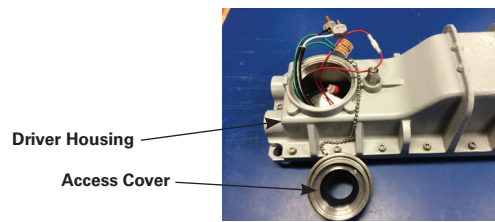
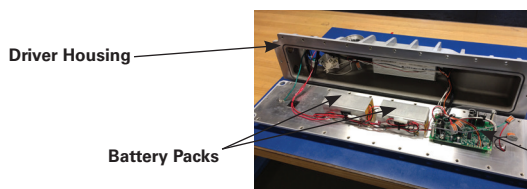

Figure 10
Figure 11
3. Battery replacement requires removal of the driver housing (see Figure 11).
4. Open the threaded wiring access cover (see Figure 10) and allow the cover to hang by the lanyard.
9. Remove the twenty-four (24) socket head cap screws and lock washers from the driver housing using a 5mm hex wrench or bit.
11. Remove the driver housing. Note: Keep the housing close to the luminaire body to avoid strain on the attached wire harness (see Figure 11).